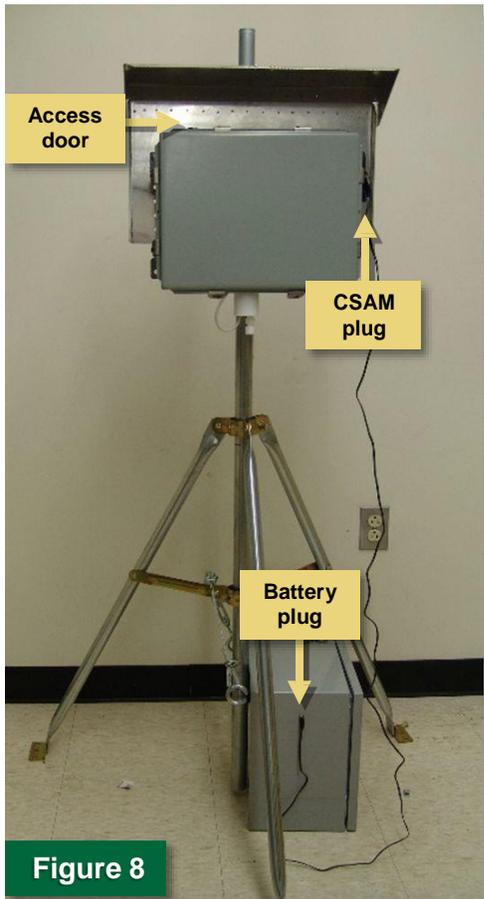

Figure 8
1. Turn on the CSAM by plugging the power supply cable into the CSAM and connect to a wall outlet with the AC adaptor or to the battery case as shown in Figure 8.